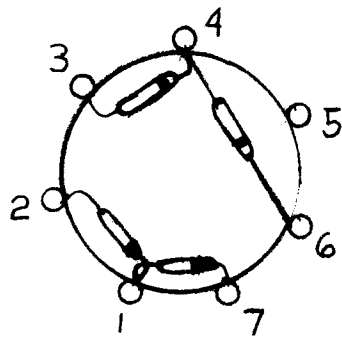

Figure 1. Component Connections (underside of socket)
2. On the underside of the DD100 socket connect and solder in place four each of item 1 as shown in figures 1 and 2.